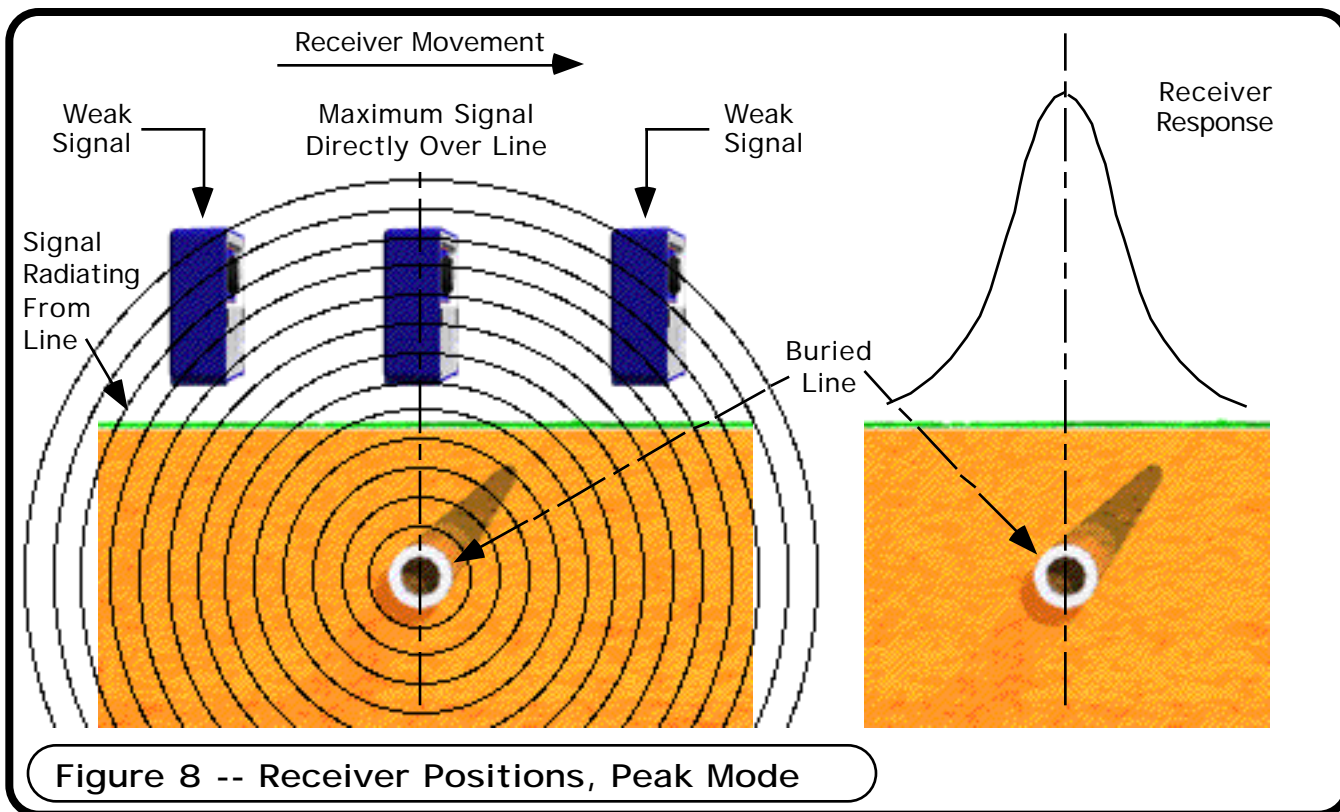

Figure 8 -- Receiver Positions, Peak Mode
As the energized line carries the signal from the transmitter, a cylindrical pattern of energy forms around the line (**Fig. 8**). In general, the strength of the signal is strongest at the center of this cylinder and gradually decreases away from the center. The 902 receiver employs a directional antenna, so that it can detect the signal in different response modes depending on how it is positioned. By manipulating the receiver over the line and properly interpreting the results, an operator can perform several locating tasks with high accuracy.
- iii) Hold the receiver vertical and in the approximate direction of the line as shown in **Fig. 8**. Adjust the SIGNAL LEVEL control so that the receiver responds to the signal from the line at around 3/4 scale.